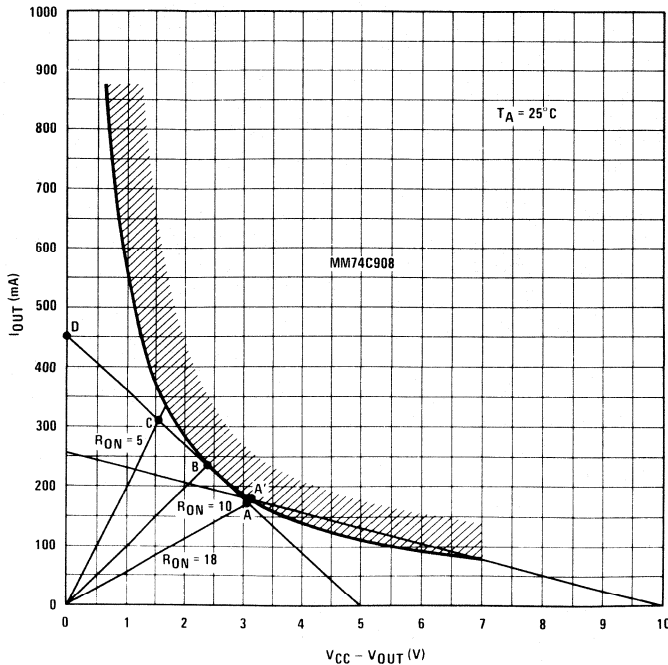
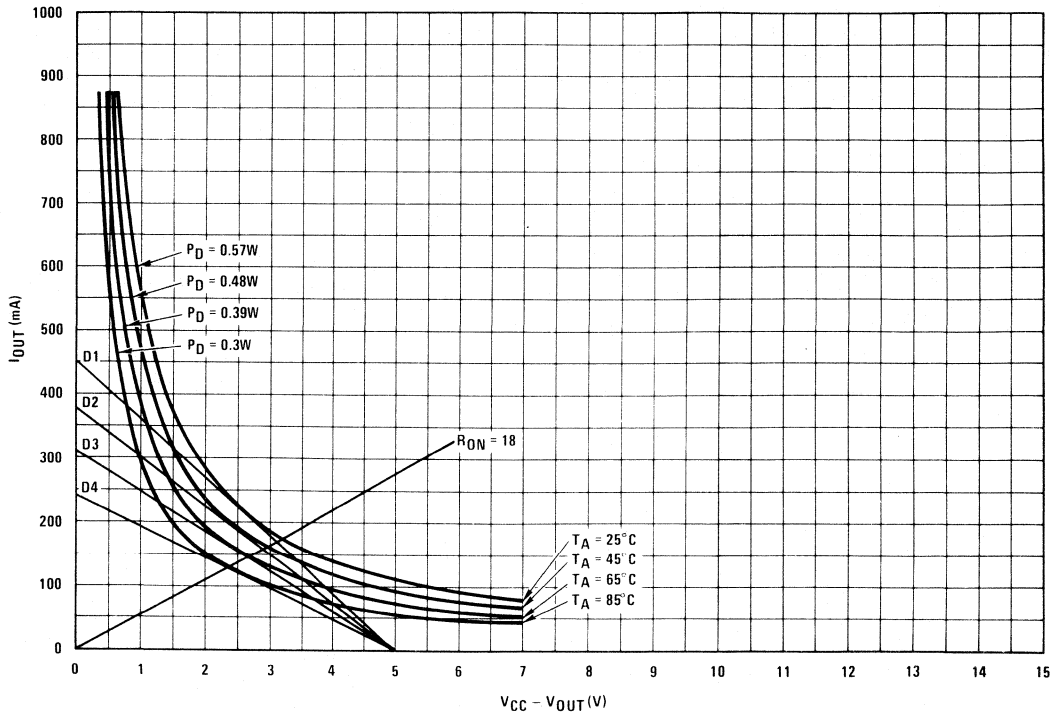

FIGURE 4
FIGURE 6
A constant power curve $P_D = 0.57W$ can then be plotted as shown in *Figure 4*. The circuit must operate below this curve. Any voltage-current combination beyond it (in the shaded region) will not guarantee T_j to be lower than $150^\circ C$.
For any given R_L , a load line (7) can be superimposed on *Figure 4*.
Given V_{CC} and V_L , a minimum R_L can be obtained by drawing the load line tangent to the constant power curve. In *Figure 4*, at $V_{CC} - V_L = 5V$ the line intersects I_{OUT} axis at $I_{OUT} = 450$ mA. Thus, $R_L(\text{MIN}) = 5V/450$ mA = 11.1Ω . Any R_L value below this will move the intersecting point up and cause a section of the load line to extend into the shaded region. Therefore, the junction temperature can exceed $T_j(\text{MAX}) = 150^\circ C$ in the worst case if the circuit operates on such a section of the load line.
For $V_{CC} - V_L = 10\text{V}$, however, a section of the load line can go beyond the $P_D = 0.57\text{W}$ curve without affecting the safe operation of the circuit. By inspection of Figure 4, the reason is clear—the load line extends into the shaded region only outside of the specified R_{ON} range (to the right of point A'). Within the R_{ON} range, the load line lies below the $P_D = 0.57\text{W}$ curve, thus, a safe operation.
For different ambient temperatures or for different power considerations, Figure 4 can be applied by properly scaling the I_{OUT} axis. (Note that $I_{OUT} \propto T_j - T_A$ and $I_{OUT} \propto P_D$).
To further simplify the design, a family of such curves has been generated as shown in *Figure 6*. Each of these curves corresponds to a particular T_A and P_D (per driver) as indicated, and similar to the $P_D = 0.57W$ curve in *Figure 4*, is generated from (6) by using appropriate T_A values. The application of these curves is illustrated as follows:
By constructing the load lines tangent to the curves for $T_A = 25^\circ C$, $45^\circ C$, $65^\circ C$ and $85^\circ C$, $R_L(\text{MIN})$ for each case can be obtained through the vertical coordinate for the intersection points as shown in *Figure 6*. These are calculated in Table I.